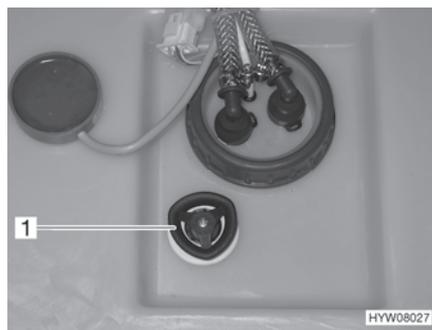

Fig. 140 Water tank with rotary handle
- Turn the rotary handle (Fig. 140,1) on the water tank in an anticlockwise direction as far as possible beyond the resistance to fully open the drainage opening.